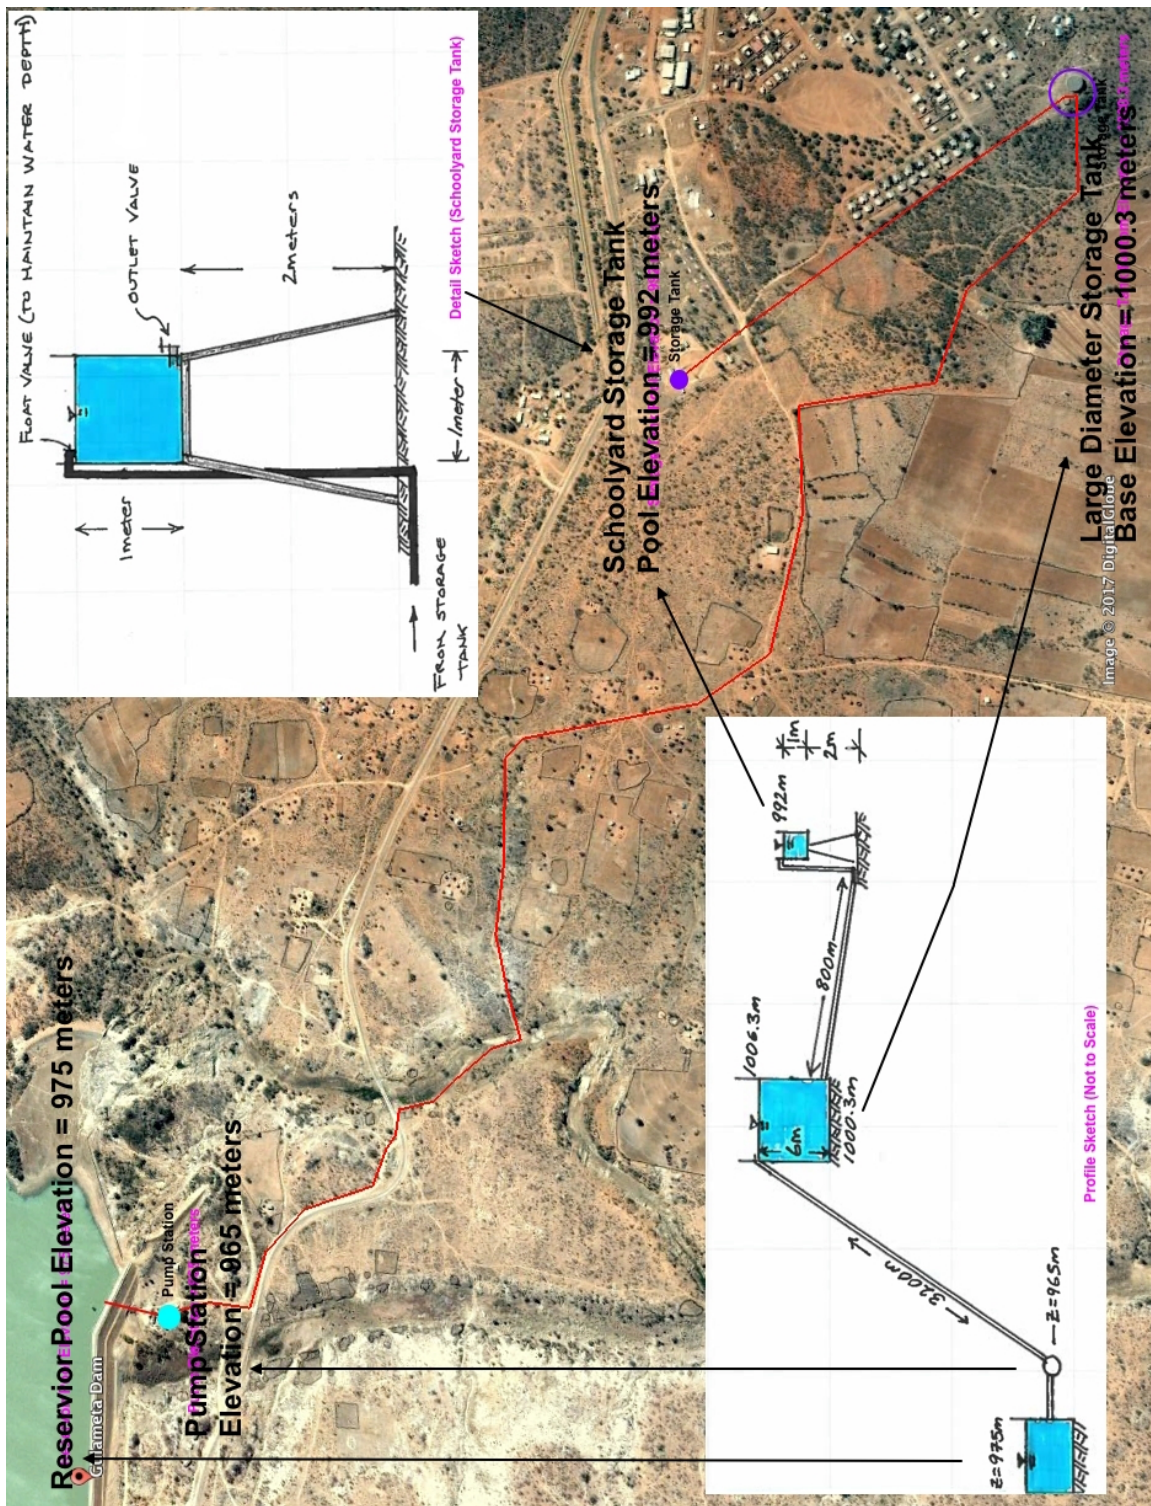

Figure 3: Water Supply System in Re-Developing Nation
7. Figure 3 is an aerial image of a pipeline system with preliminary engineering sketches of the system (lower left panel) and a detail sketch of the terminal small storage tank (upper right panel). The 3,200 meter long pipeline lifts 25C water ($\rho = 997 \text{ kg/m}^3$, $\nu = 8.94 \times 10^{-7} \text{ m}^2/\text{s}$) from a treatment plant on the downstream face of Gulameta Dam through a 127 millimeter high-density polyethylene (HDPE) pipe ($k_s = 0.0015 \text{ mm}$) to a large diameter at-grade cylindrical storage tank. A secondary, 800 meter long pipeline carries water from the large diameter storage tank to a small, cylindrical ($D = 1 \text{ meter}$), elevated storage tank at the village school. Both storage tanks have float valves to prevent overflow and maintain the indicated water pool elevations.
- (I) What is the pool elevation, in meters, of the supply reservoir (Lake Gulameta)?
- (II) What is the pump centerline elevation, in meters, that supplies water to the HDPE pipeline?